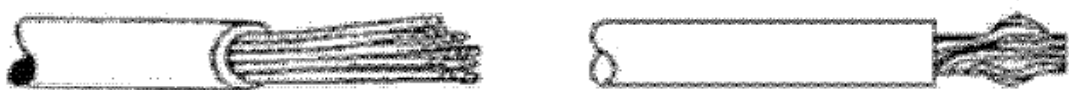

Figure 235
4. Un-stranded, splayed, or Bird cage strands as shown in Figure 235.